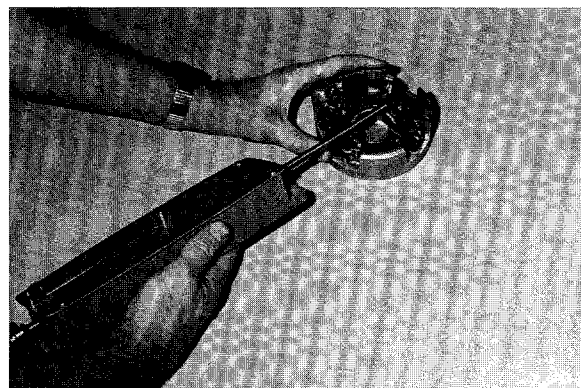

Figure 5-30
2. Test brush spring tension with a spring scale (**Figure 5-30**). Replace springs which apply a force less than 24 ounces.